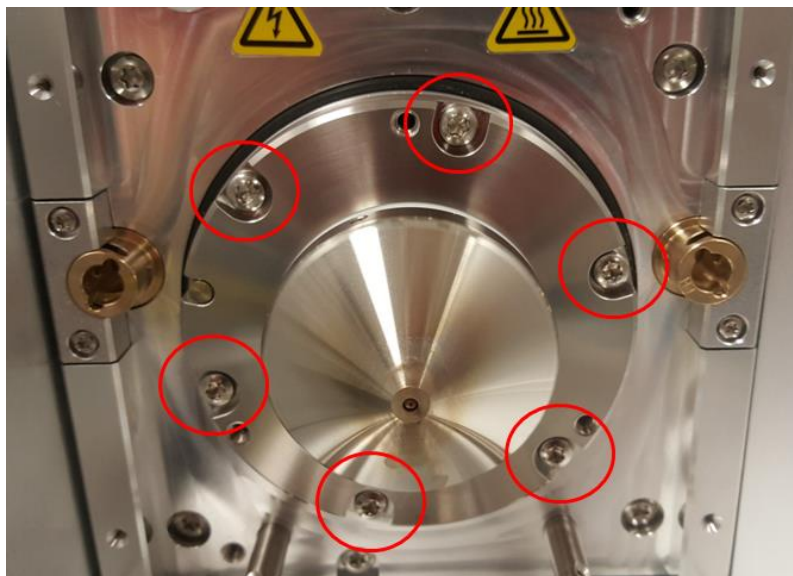

Figure 107: Removing source housing screws
- 4) Remove the six source housing screws as shown in Figure 107.